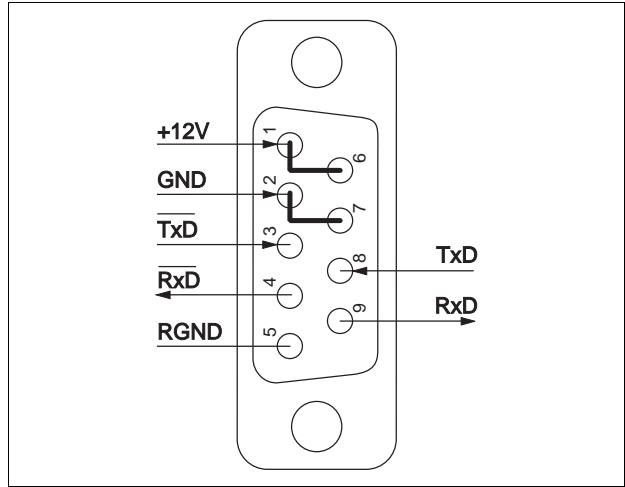

Fig. 2-14 Interface connector – unit side
- Solder litz wires to connector according to fig. 2-14.